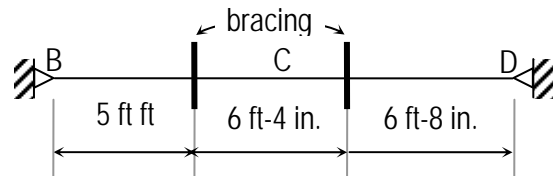

Figure 2c. (top view of bracing)
- The top chord that is continuous is laterally braced at each end and across the span as show in Figure 2c. The ends are considered to be pinned.